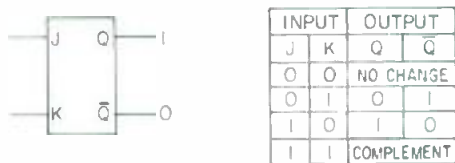

Figure 3. JK flip-flop with truth table.
The commonly-used J-K flip-flop has two inputs and two outputs and no ambiguous states (FIGURE 3). When a HI is applied to the J input, the flip-flop is switched to a HI state. (Note that when we say that a flip-flop is in a HI (or LO) state, we are referring to the state of the Q output. Therefore, the  $\bar{Q}$  output is in the opposite state.)
Figure 3. (A) A graph showing the S.P.L. of each singer across the stereo spectrum. Addition of decibel levels for each singer equals the total S.P.L. for that voice. This example gives equal S.P.L. for each singer
The effect of these two methods on stereo balance is shown in FIGURE 3. The phase-related method puts signal across the entire left-to-right spectrum. Components of each singer's voice are contained on both tracks, with varying intensity and time delay depending on the singer's position, relative to the microphones. Every point within the stereo spectrum is affected by both microphones.